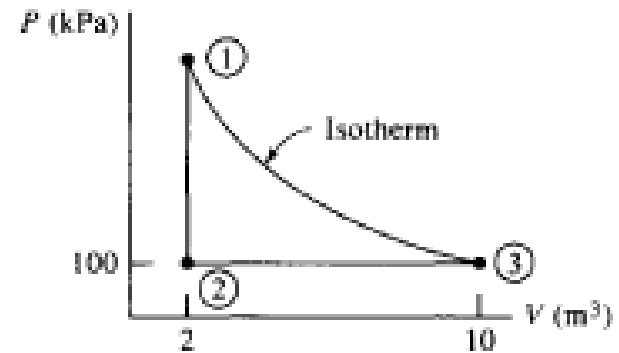

Fig. 3-14
3. Two kg of air experiences the three-process cycle shown in Fig. 3-14. Calculate the net work.